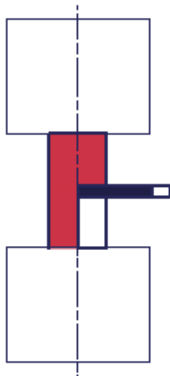

Fig.1
- For metalized edge : ± 0.05 mm, in addition of the Wobbling Value. (fig.1)